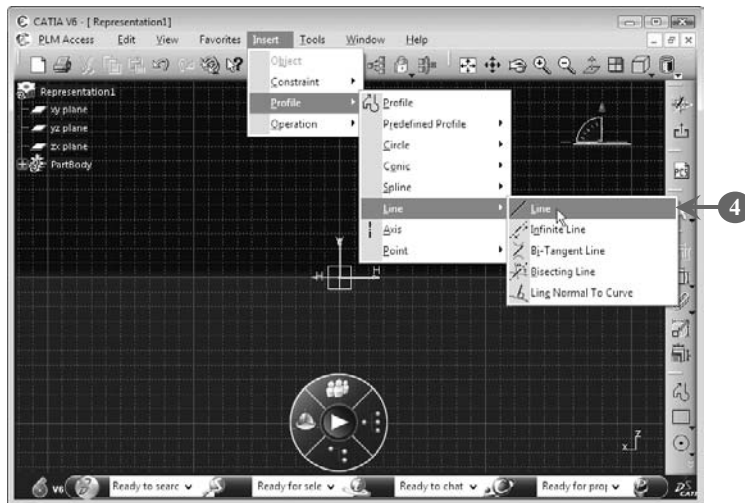

FIGURE 5.53
The Sketcher workbench is displayed with the **zx-plane** as the sketching plane (**Figure 5.53**).
4. *Select* **Insert>Profile>Line>Line** from the menu bar to draw a line, as shown in Figure 5.53: